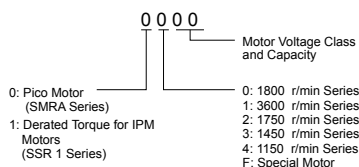

Figure 5.41 PM Motor Code
*Figure 5.41* explains the motor code setting.